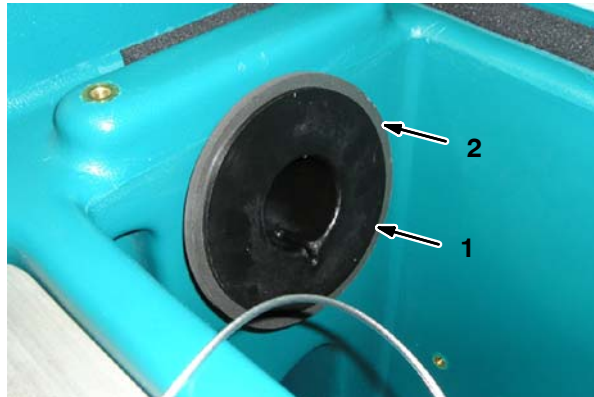

FIG. 4
6. Insert the elbow tube into the recovery tank. Refer to Fig. 4.